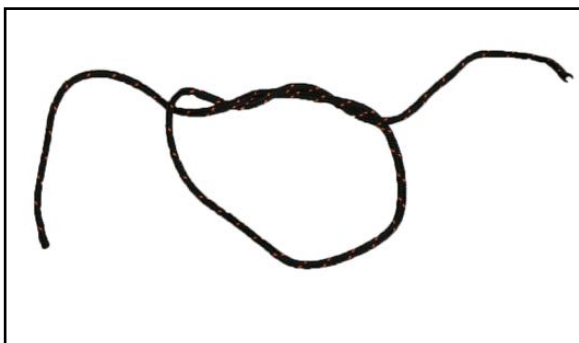

Fig. 8.10
5. The first knot tied is a surgeon's knot. **(Figure 8.10)**